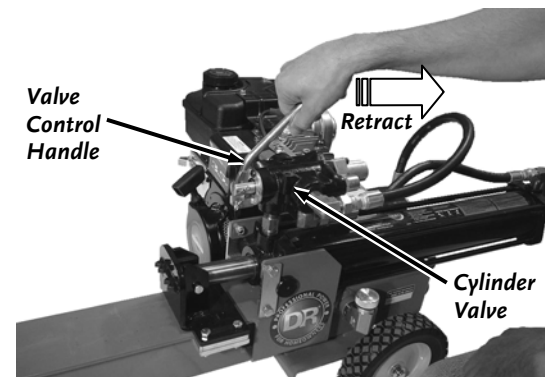

Figure 20
14. When the Push Plate is fully extended, push the Valve Control Handle to the retract position and retract the Cylinder Piston (**Figure 20**). The Cylinder Valve will automatically stop the Cylinder from retracting when it reaches the end of its stroke. Fully cycle the Cylinder 2 to 3 times.